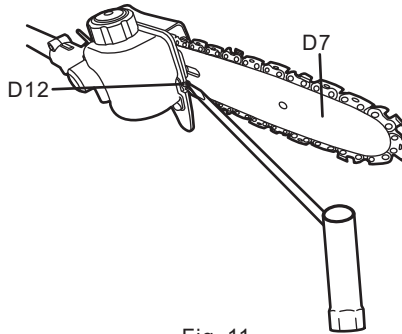

Fig. 11
2. Turn the tension screw (D12) clockwise until the chain "tie straps" are just touching the bottom edge of the guide bar (D7). (See Fig. 11)